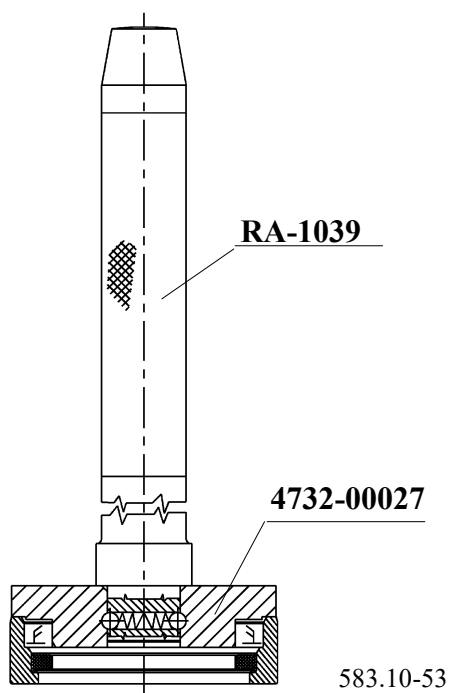

Fig. 3.: DRIVING THE NEW SEALING RING INTO THE SEAL RETAINER
By means of the tool shown drive the new sealing ring (104) into the seal retainer (Fig. 3.)